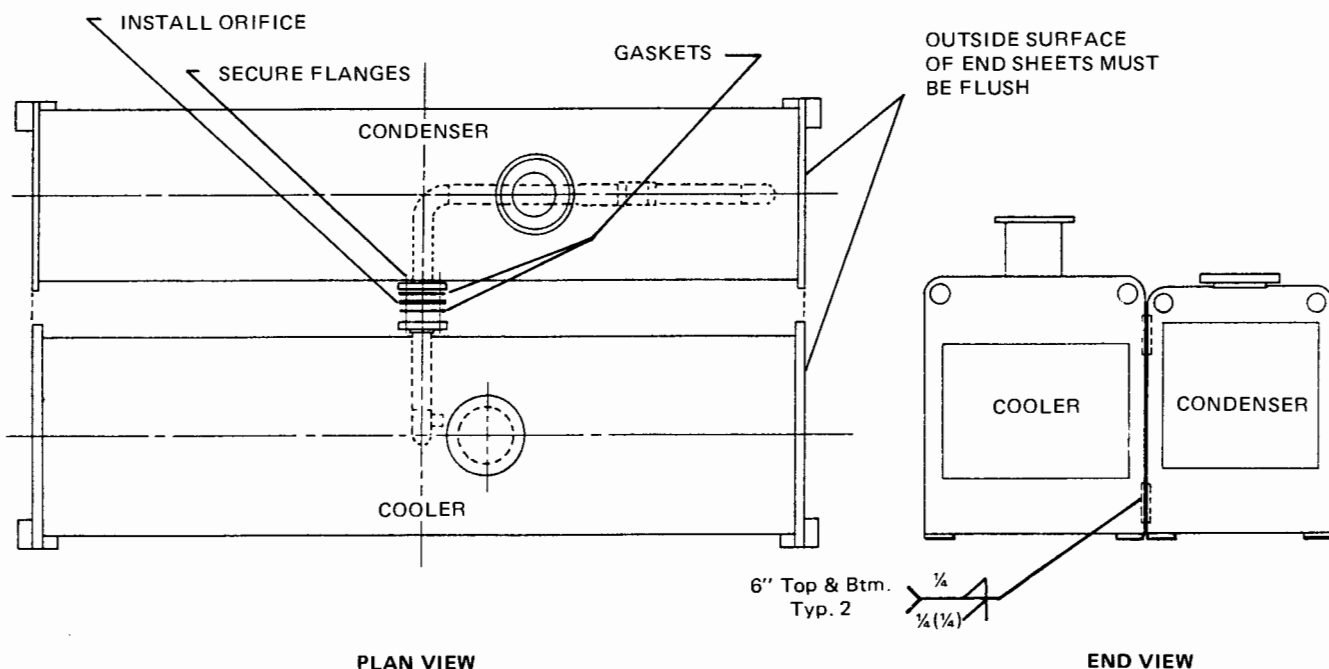

FIG. 2 – FORM 7 SHIPMENT
FORM 7 SHIPMENT (See Fig. 2).
3. Weld tube sheets together. (See Fig. 2 for welding symbol.)